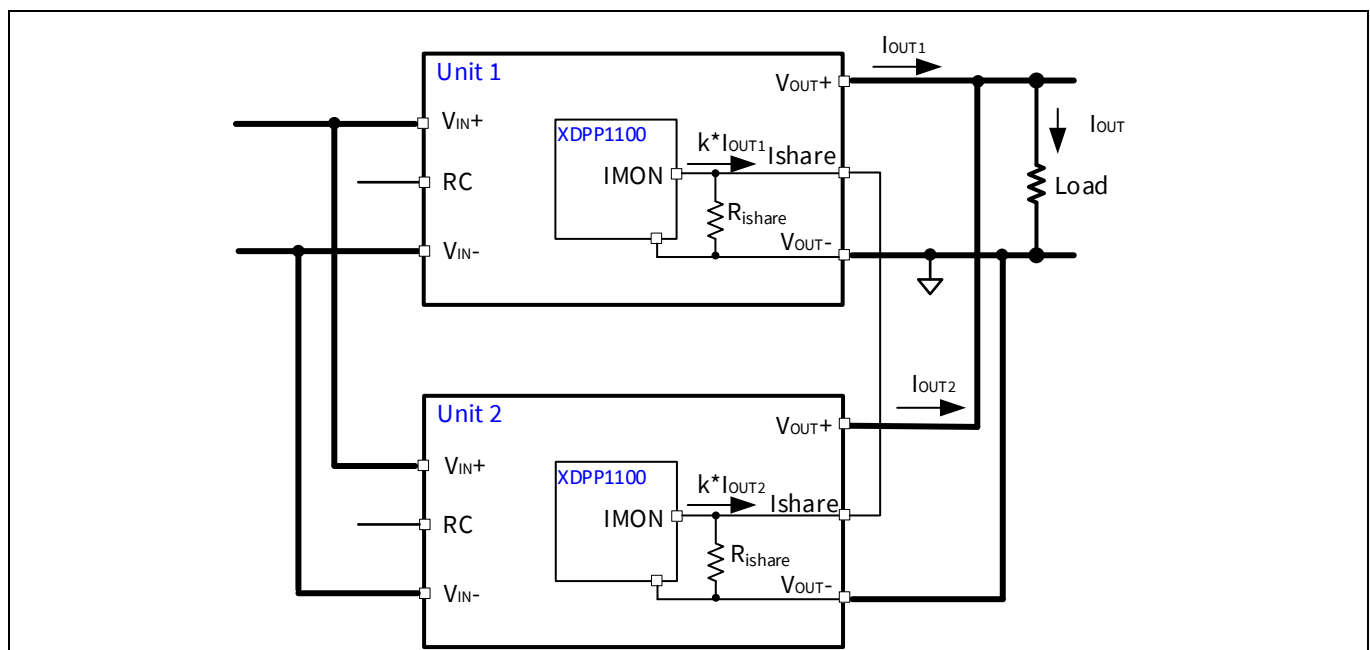

Figure 85 Active current sharing example with two units in parallel with simultaneous module start-up
For active current sharing, the XDPP1100 IMON pin is used to share the current information between power supplies. An example system with two XDPP1100-based power supplies connected in parallel is shown in Figure 85.
- If parallel modules are all enabled simultaneously from start-up, R_{ishare} is connected between IMON pin and ground (Figure 85 and Figure 86).